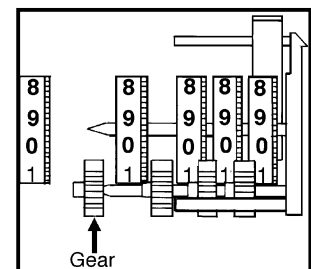

Figure 6
11. Remove the last counter only. Spread the remaining gears and counters apart just enough to rotate the counters back to zero. Starting with the right-most counter, rotate it so that zero is just above the white gear and then engage it to the white gear that is immediately behind it. Rotate the next counter to zero and follow the same procedure until all the remaining counters read zero. Replace the counter that was removed, also making sure that it reads zero (Fig. 6)(Note: The counters are free spinning, so they can be rotated in either direction.)